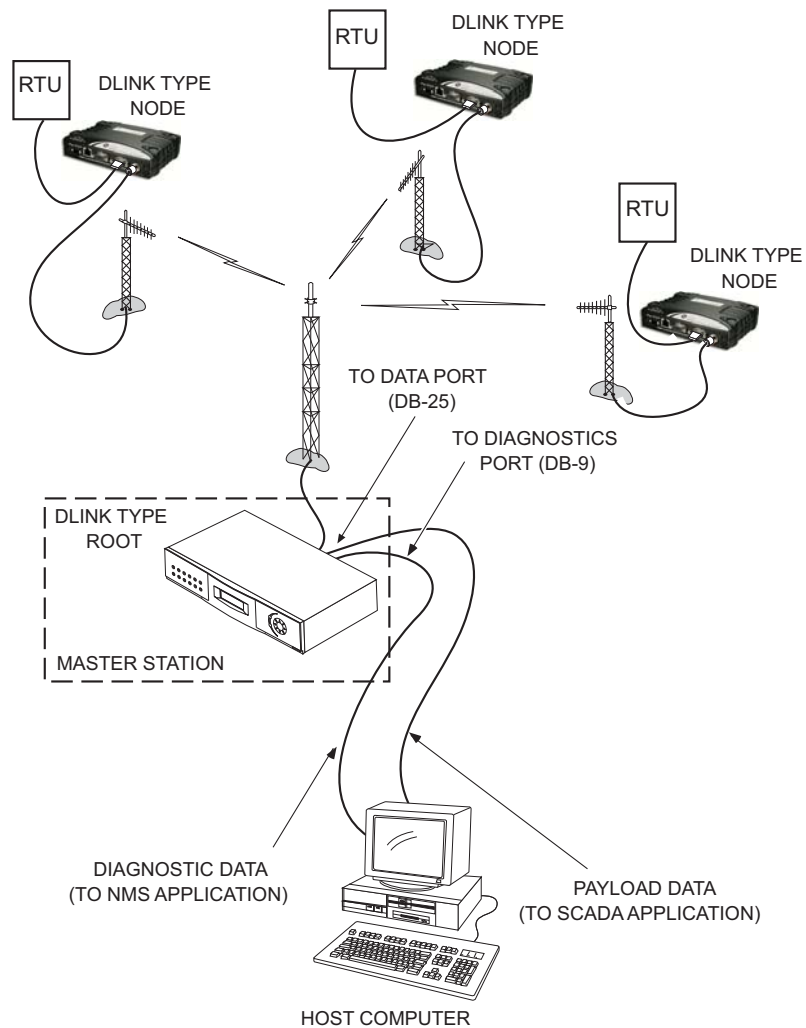

Figure 37. Network-Wide Remote Diagnostics Setup
Diagnostics data from a remote radio can be obtained by connecting a laptop or personal computer running GE MDS diagnostic software, such as MDS PulseNET or MDS InSite to any radio in the network. InSite is designed for operation with a serial-based (COM1) connection, unless using a terminal server. PulseNET is designed to operate with the radio's Ethernet port. Figure 37 shows a sample arrangement for performing network-wide remote diagnostics.
4. Connect a PC running the management software to the root radio, or to one of the nodes, using the radio’s Ethernet port. (This PC may also be the computer used to collect payload data, as shown in Figure 37.)